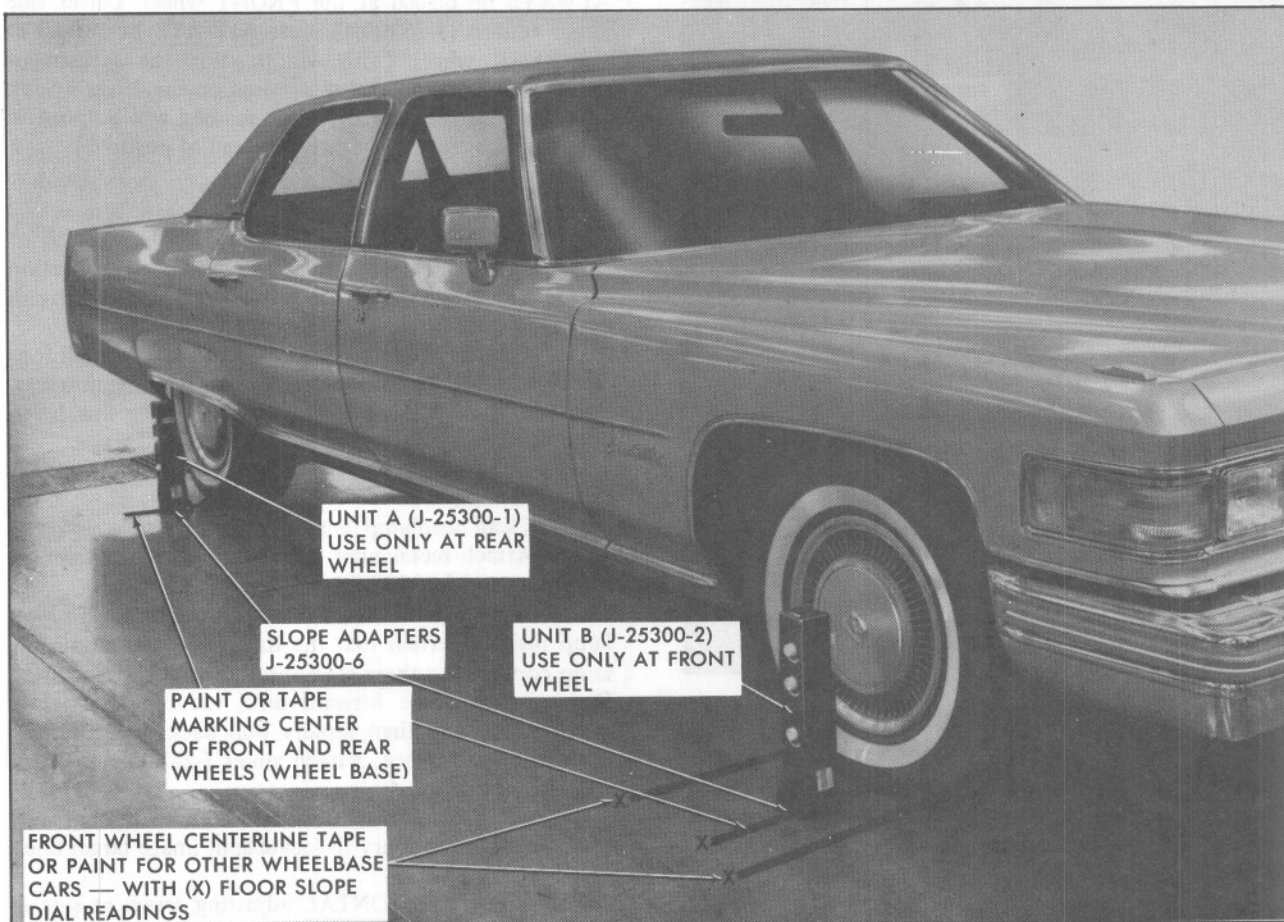

Fig. 12-2 Checking Floor Slope
3. Place aimers at the center line of each wheel on the passenger side of the car as shown, in Fig. 12-2.
be immediately set to the mark next to the centerline of the front wheels of each following car, Fig. 12-2.)